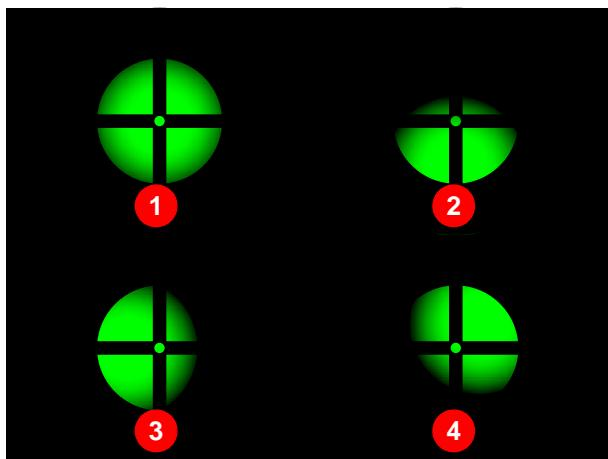

Figure 6.31 Checking the beam adjustment
16. Open the shutter and check the image of the laser on the transducer disk. Figure 6.31 shows examples for possible images:
- Adjustment OK (1)
- Emission too low (2)
- Emission too far to the left (3)
- Emission too far to the right (4)
21. Open the shutter and check the image of the laser on the transducer disk (see Figure 6.31).